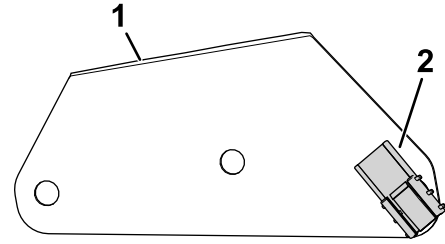

Figure 3
1. Secure the clip connector to the harness bracket (Figure 3).